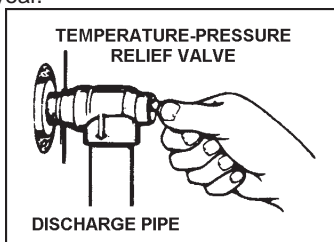

FIGURE 18.
When checking the temperature-pressure relief valve operation, make sure that (1) no one is in front of or around the outlet of the temperature-pressure relief valve discharge line, and (2) that the water discharge will not cause any property damage, as the water may be extremely hot, see Figure 18.